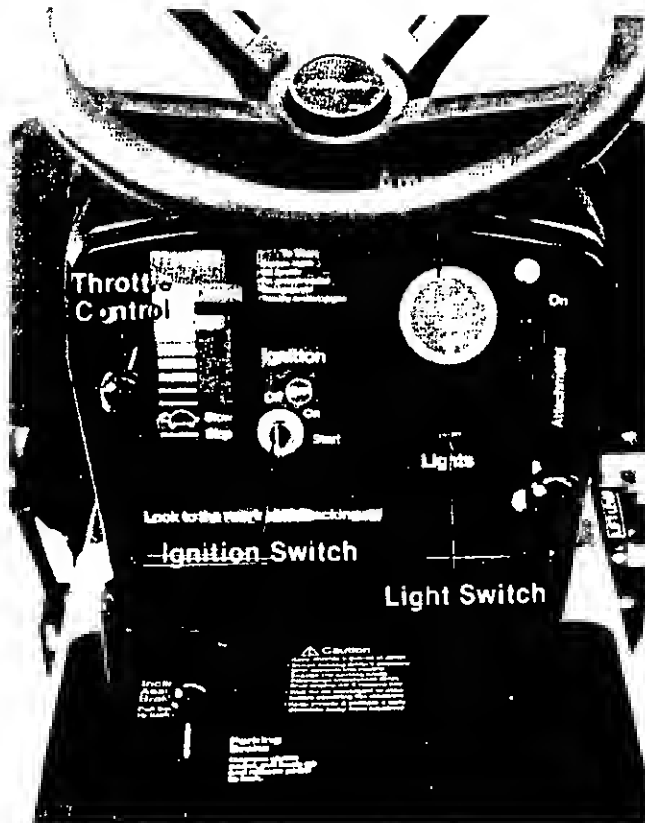

FIGURE 10.
The ignition switch is located in the center of the dashboard. Turn the key to the START position to start the engine. When the engine is running leave the key in the ON position. To stop the engine turn the key to the OFF position. (See figure 10.)
The throttle control is located on the left side of the dashboard and is used to regulate the engine speed. (See figure 10.) The engine should be operated from 3/4 to full throttle (FAST) when operating any equipment that uses the tractor engine as a source of power such as the mowing deck, snow thrower or rotary tiller. (See figure 10.)
The head lamps are operated by pushing the light switch located on the dashboard. The head lamps will only operate when the engine is running. (See figure 10.)
The maximum charging rate is 3 amps. The head lamps operate directly from the engine alternator and do not register on the ammeter. (See figure 10.)
4. Set the throttle control in the "FAST" position. See figure 10.
5. Turn the ignition key to the right to the "START" position. After the engine starts release the key. It will return to the "ON" position. See figure 10.